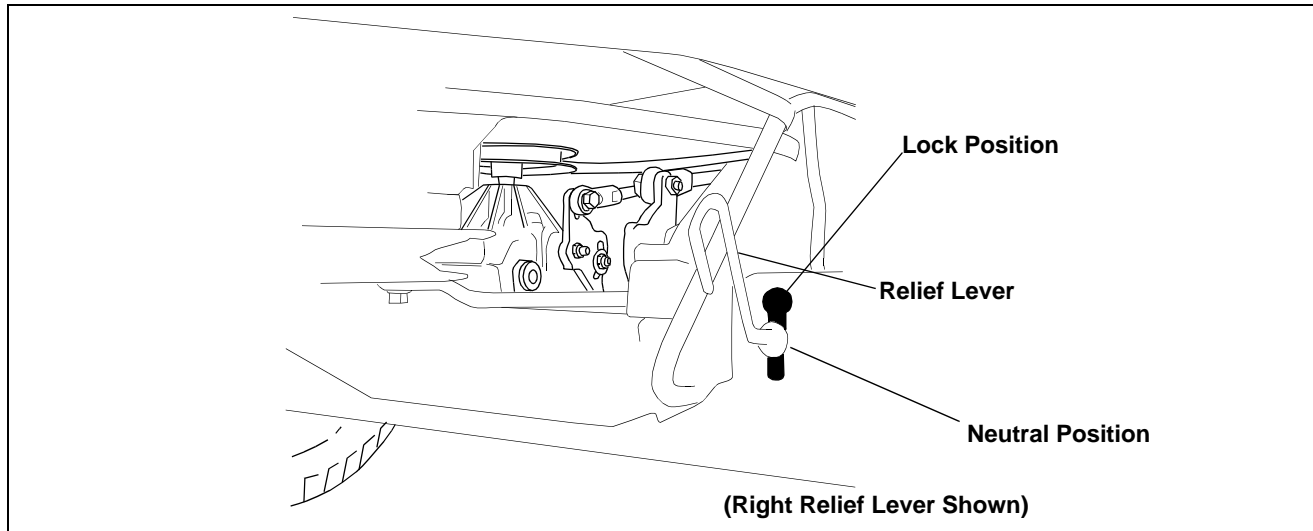

Figure 12
4. Slide the levers into the slots to relieve the hydraulic pumps. (See Figure 12)